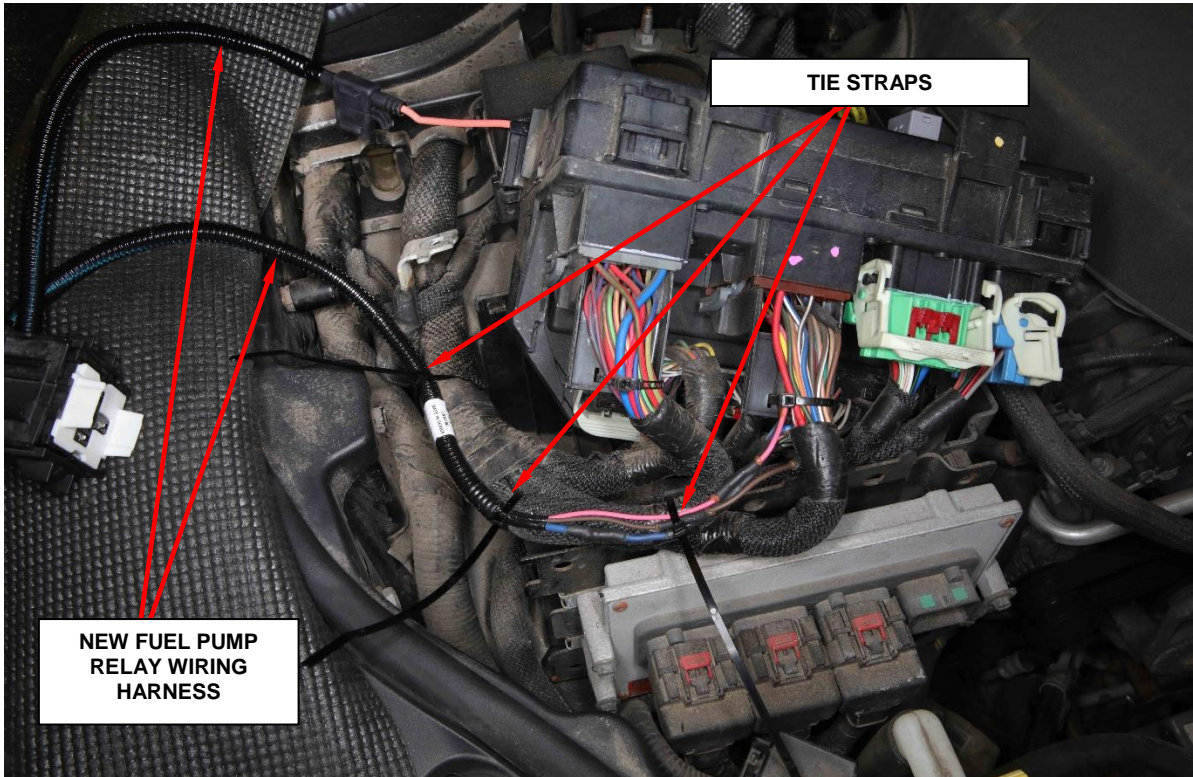

Figure 7 – New Fuel Pump Relay Harness
15. Route the **NEW** Fuel Pump Relay wiring harness along the main TIPM harness and secure the **NEW** harness using tie straps as shown in (Figure 7).